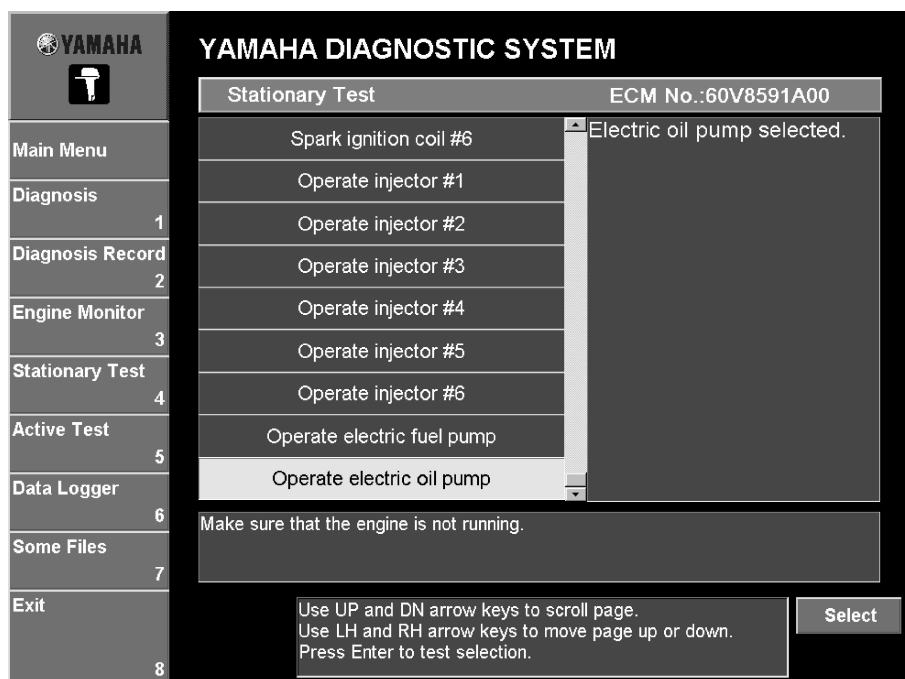

Fig. 53
1. Select the test to be performed, and then click the **Select** button or press the Enter key on your keyboard. (Fig. 53)